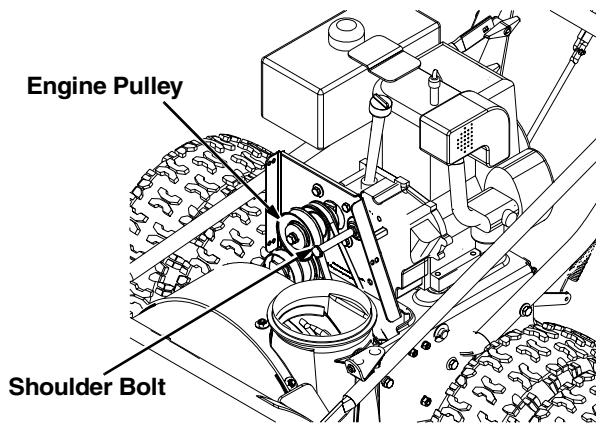

Figure 18
- Remove the large shoulder bolt and washer on the left hand side of the engine pulley. Refer to Figure 18.
- Insert ferrule on auger idler rod into bracket assembly and secure with flat washer and cotter pin. Reassemble the large shoulder bolt and lock washer as shown in Figure 18.